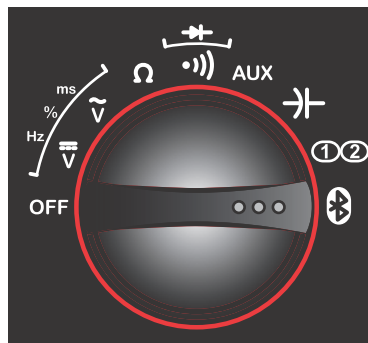

Figure 8-22 Rotary switch Remote Functions setting
5. With Bluetooth Discovery enabled, turn the M2 Scope/Meter Rotary Switch to the Remote Functions position (Figure 8-22).